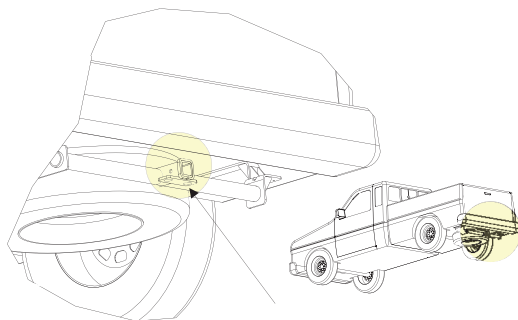

Figure 3-3
**NOTE:** Some shallow hitches (for example, hitches blocked by spare tires) may call for a short hitch adapter. **See Figure 3-3.**